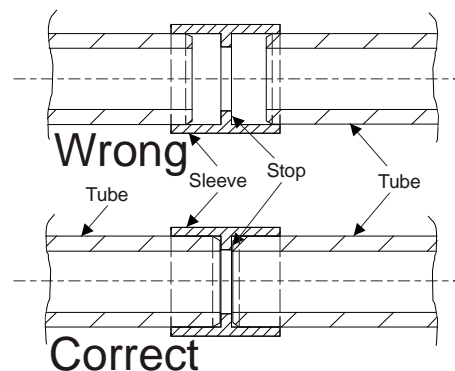

Fig. 22 Joining the tubes
- The individual pipe sections are connected to each other with fittings. Depending on the used tube material, gluing as described in Sec. 5.5.2 and 5.5.3 or pressing as described in Sec. 5.5.4 is used. The tubes are pushed into the fittings to the stop (Fig. 22).